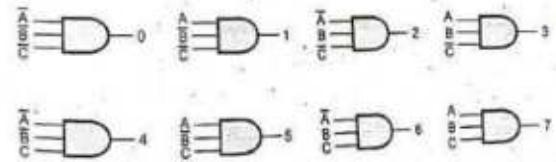

Fig. 5.9.18 Decoding gate connections
- The Fig. 5.9.18 gives these connections for all possible state detection for 3-bit counter.